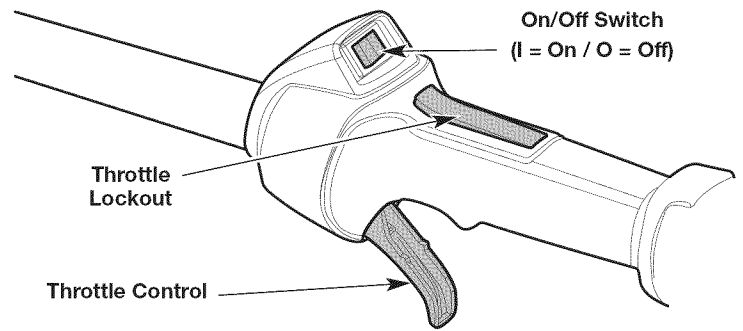
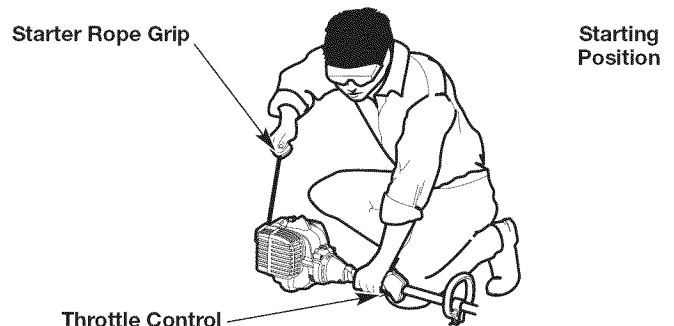

Fig. 12
Fig. 15
WARNING: Avoid accidentally starting the unit. To avoid serious injury, the operator and the unit must be in a stable position when pulling the starter rope (Fig. 15).
NOTE: There is no need to turn the unit on. The On/Off switch is in the **On (I)** position at all times (Fig. 12).
5. Crouch in the starting position (Fig. 15).
6. Press and hold the throttle lockout. Squeeze and hold the throttle control (Fig. 12). Pull the starter rope with a controlled and steady motion **5 times** (Fig. 15).
2. Press and hold the On/Off switch in the **Off (O)** position until the engine comes to a complete stop (Fig. 12).
7. Press and hold the throttle lockout. Squeeze and hold the throttle control (Fig. 12). Run the Speed Start™ accessory for 2 seconds.